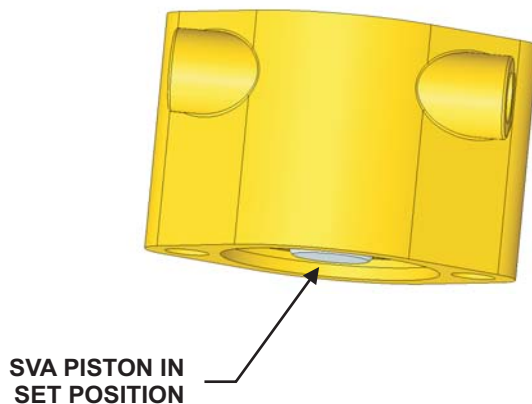

Figure 4-55. SVA in 'Set' Position
3. Check all of the SVA pistons to ensure that they are in the set position. The bottom surface of the piston must be in the body of the SVA. If it is in the released position, push the piston into the body of the SVA (see Figure 4-55).